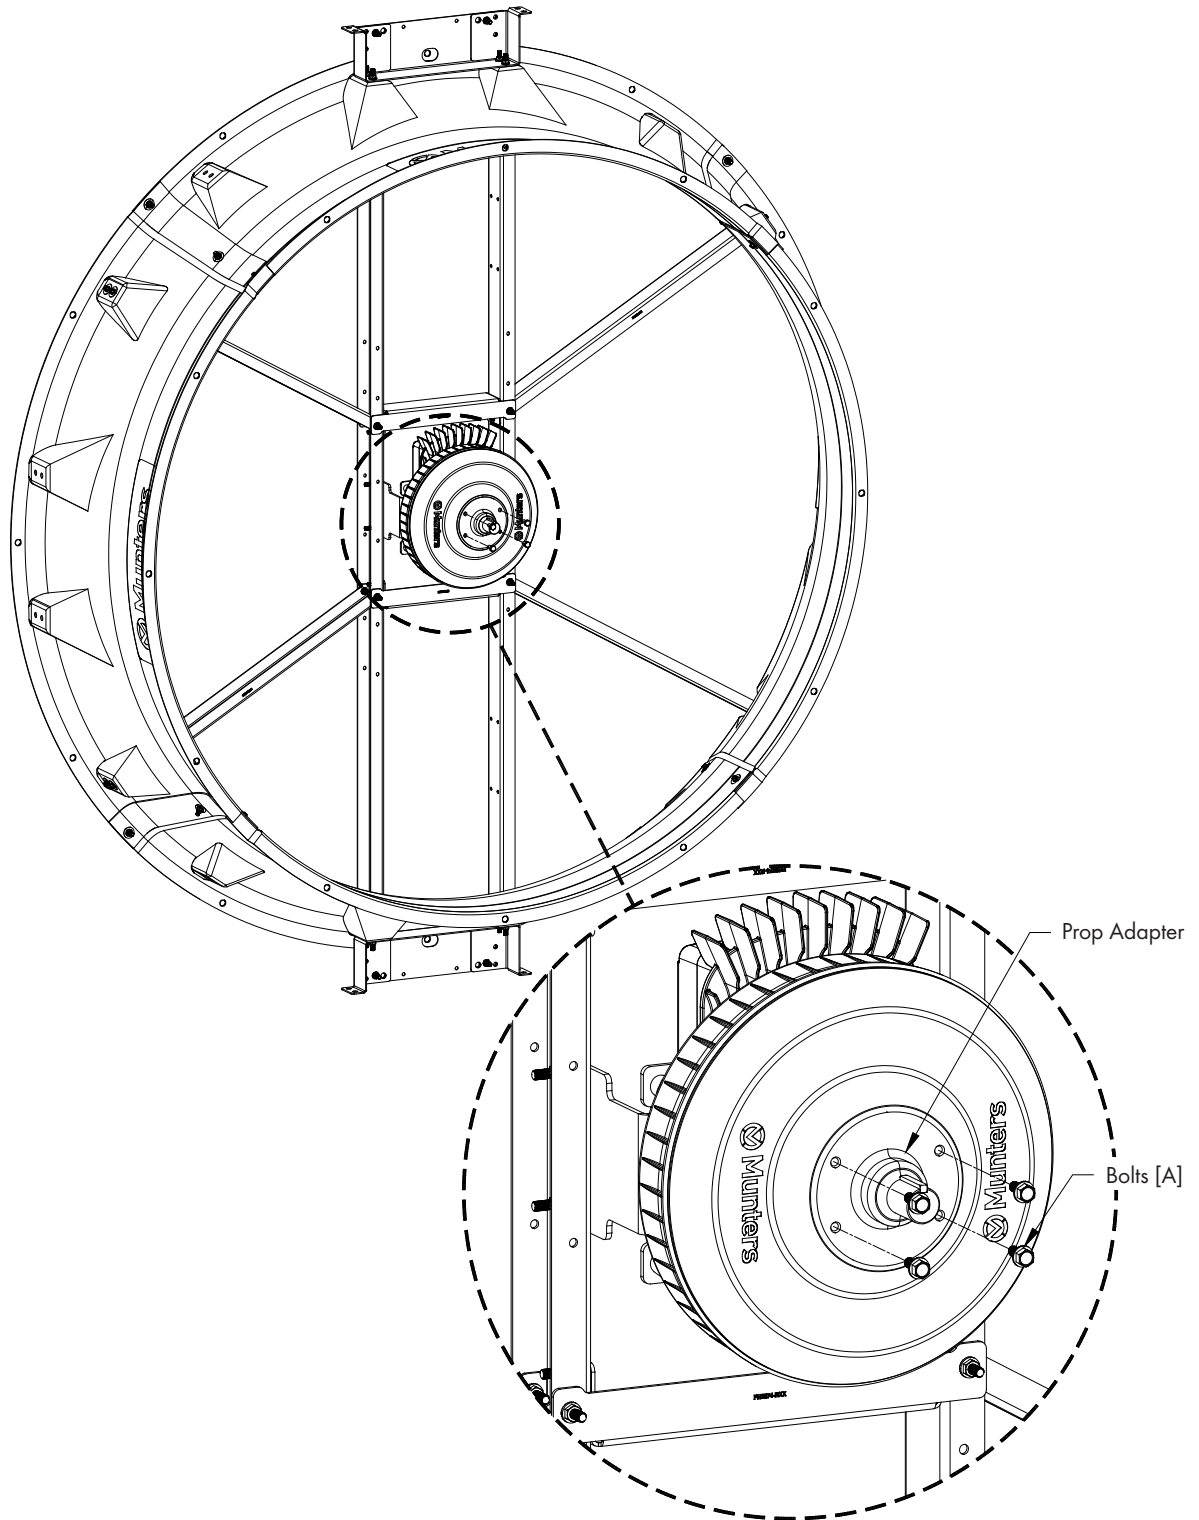

Figure 23
Attach the Prop Adapter removed in Step 18 to new Motor/Drive using (4) new Bolts [A]. Tighten Bolts to 60 in-lbs. [6.8 Nm] of torque. See Figure 23.